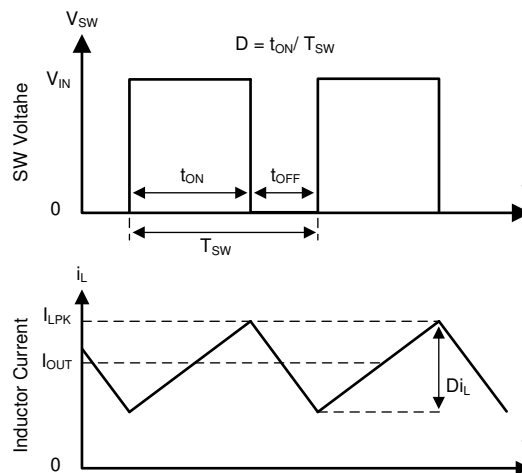

Figure 8-1. SW Node and Inductor Current Waveforms in Continuous Conduction Mode (CCM)
The following operation description of the LV3842 will refer to the Section 8.2 and to the waveforms in Figure 8-1. LV3842 is a step-down synchronous buck regulator with integrated high-side (HS) and low-side (LS) switches (synchronous rectifier). The LV3842 supplies a regulated output voltage by turning on the HS and LS NMOS switches with controlled duty cycle. During high-side switch ON time, the SW pin voltage swings up to approximately V_{IN} , and the inductor current i_L increases with linear slope $(V_{IN} - V_{OUT}) / L$. When the HS switch is turned off by the control logic, the LS switch is turned on after an anti-shoot-through dead time. Inductor current discharges through the low-side switch with a slope of $-V_{OUT} / L$. The control parameter of a buck converter is defined as Duty Cycle $D = t_{ON} / T_{SW}$, where t_{ON} is the high-side switch ON time and T_{SW} is the switching period. The regulator control loop maintains a constant output voltage by adjusting the duty cycle D . In an idea Buck converter, where losses are ignored, D is proportional to the output voltage and inversely proportional to the input voltage: $D = V_{OUT} / V_{IN}$.